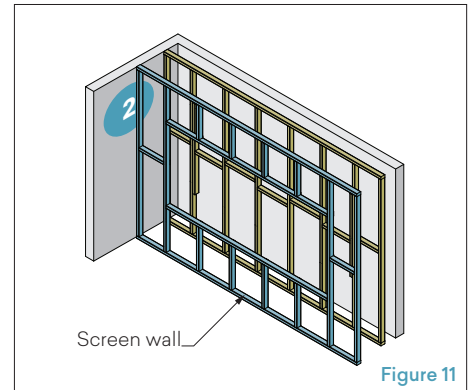

Figure 11
**2.** Erect a frame for the screen wall, and fix this to the floor, ceiling and adjoining walls. (Figure 11)